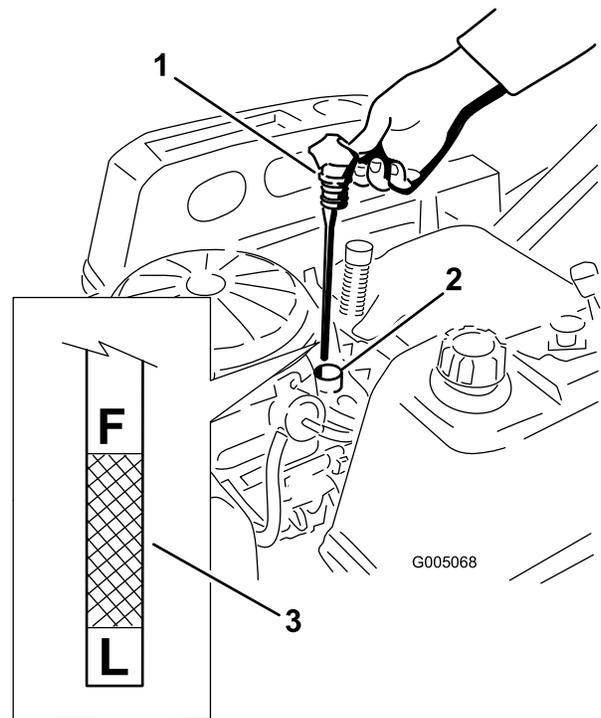
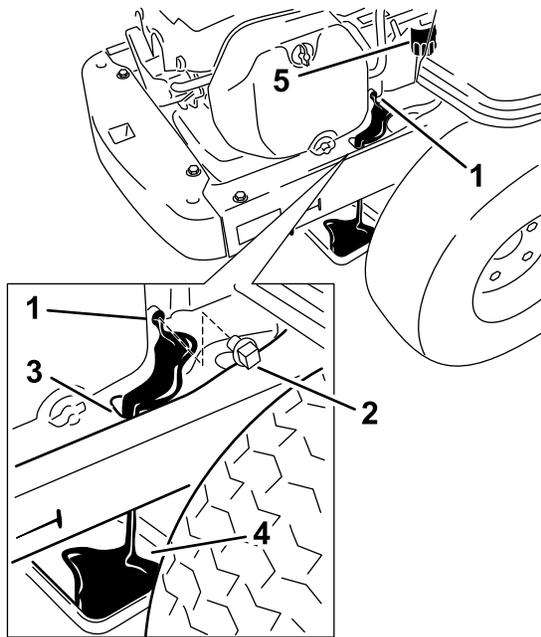

Figure 23
Figure 24
- Remove the dipstick and check the oil level. (Figure 23).
- Pull and remove the oil fill cap/dipstick; wipe oil off. Reinsert the dipstick and push firmly into place (Figure 23).
- Clean the area around the drain plug and on the machine frame. Place a pan underneath machine directly below the drain hole in the frame as shown in Figure 24.
- Remove the oil drain plug (Figure 24). Remove the oil fill cap/dipstick (Figure 23).
- Remove the old filter and wipe off the mounting pad (Figure 24).
- When oil has drained completely, install the oil drain plug. Tighten the plug to 14 N·m (125 in-lb) torque. Wipe up any excess oil on the frame (Figure 24).
- Slowly pour approximately 80% of the specified oil into the filler tube (Figure 23).
- Install the oil fill cap/dipstick and push firmly into place (Figure 23).
- Check the oil level (Figure 23); refer to Checking the Oil Level.